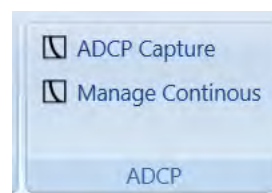
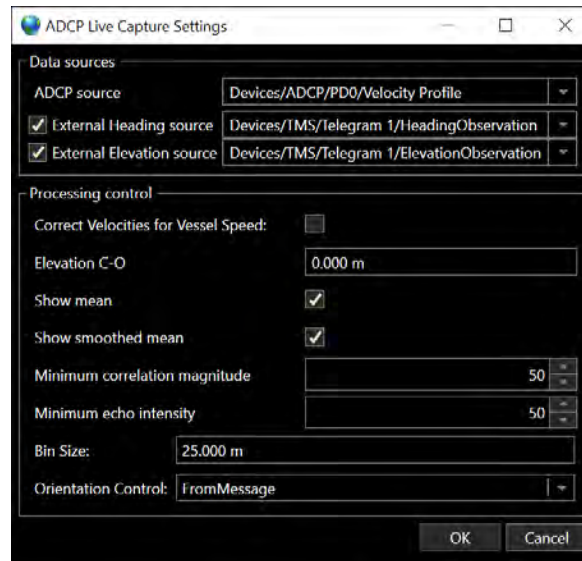

FIGURE 18-20 ADCP - SETUP RIBBON
FIGURE 18-21 ADCP LIVE CAPTURE SETTINGS WINDOW
1. To start, pause, finish and save a ADCP profile, click on the ADCP Capture button in the ADCP section of the Setup ribbon (see Figure 18-20). This opens the Live ADCP Live Capture Settings window (see Figure 18-21)